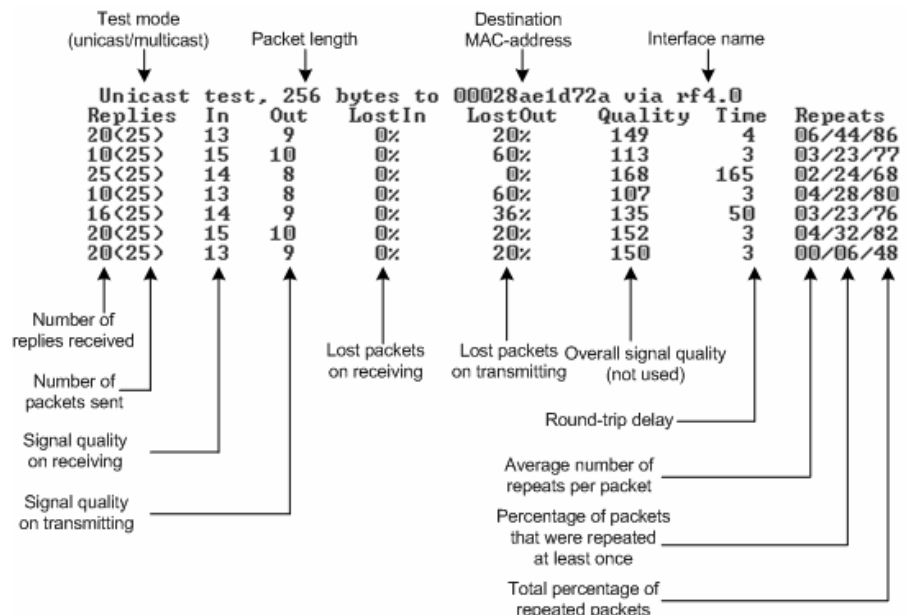

Figure 32. Rma test output
2. Antenna alignment should be done only from one side at one time. Align one side, than other side. Use mobile phones to check current signal levels. The output of rma test command is demonstrated on the Figure 32.